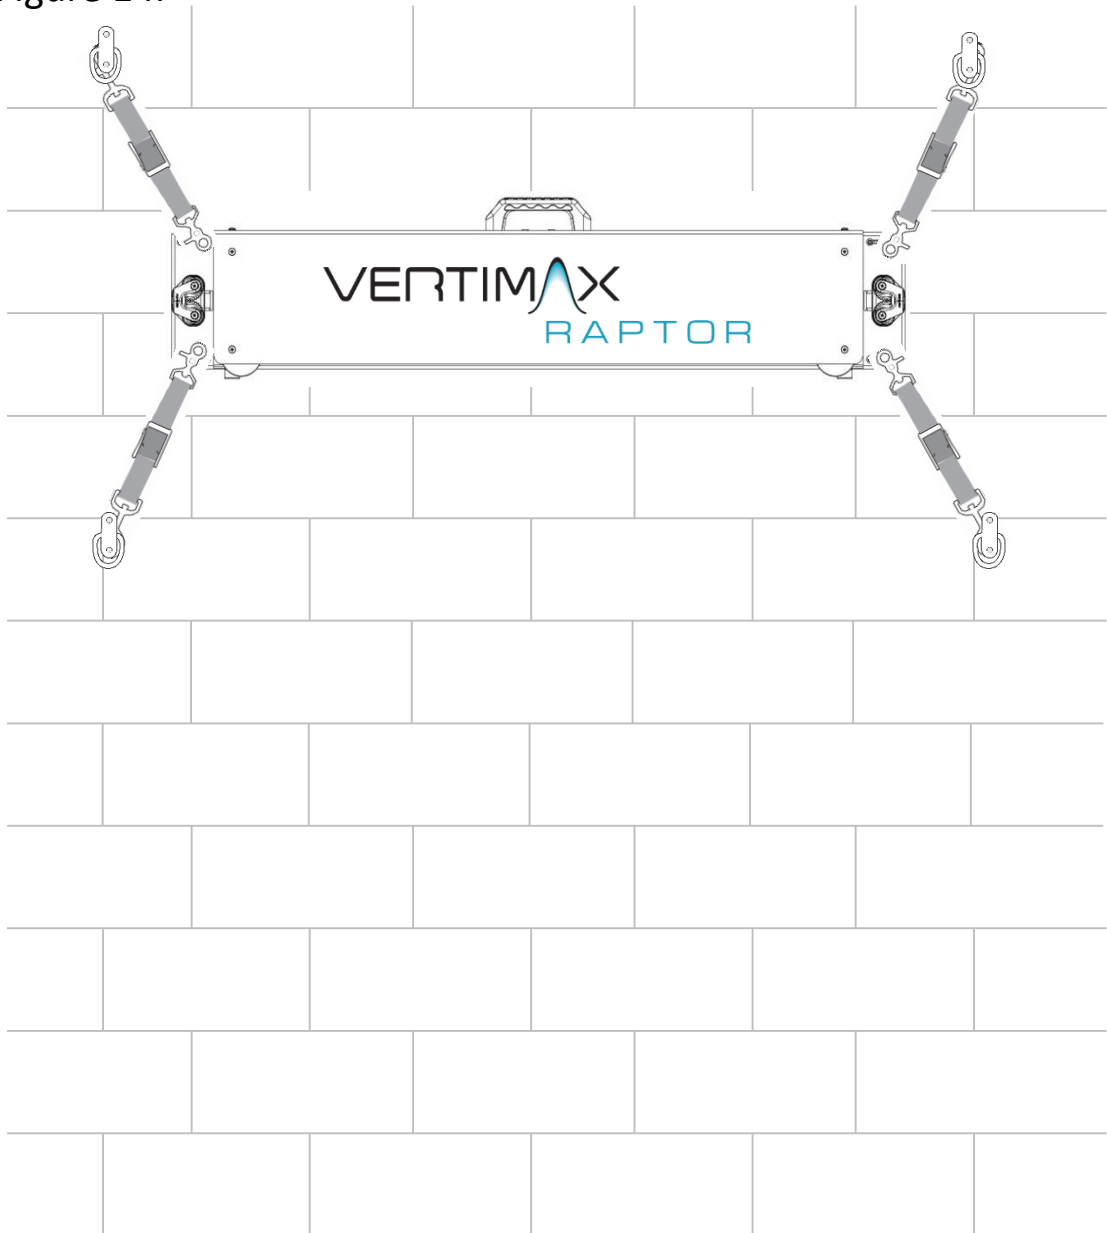

Figure 16
Step 6 – Use the proper mounting hardware to secure all four D-Ring assemblies to the cement wall. Use the four Raptor attachment straps to secure the Raptor to the wall as shown in Figure 16.